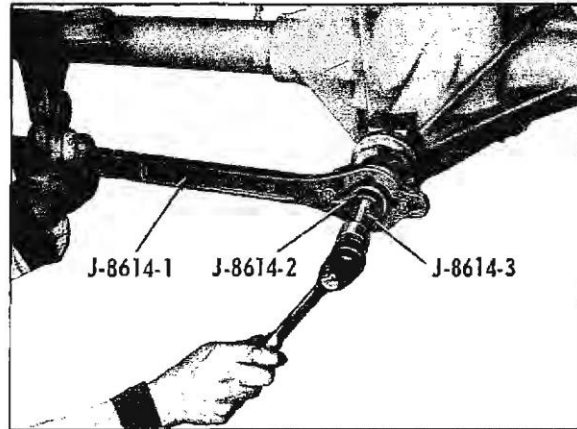

Fig. 4-31 Removing Companion Flange
3. Pull companion flange from pinion using puller J-8614-2 and 3 in holder J-8614-1. To install puller, back out puller screw, insert puller through holder, and rotate $1/8$ turn (Fig. 4-31).